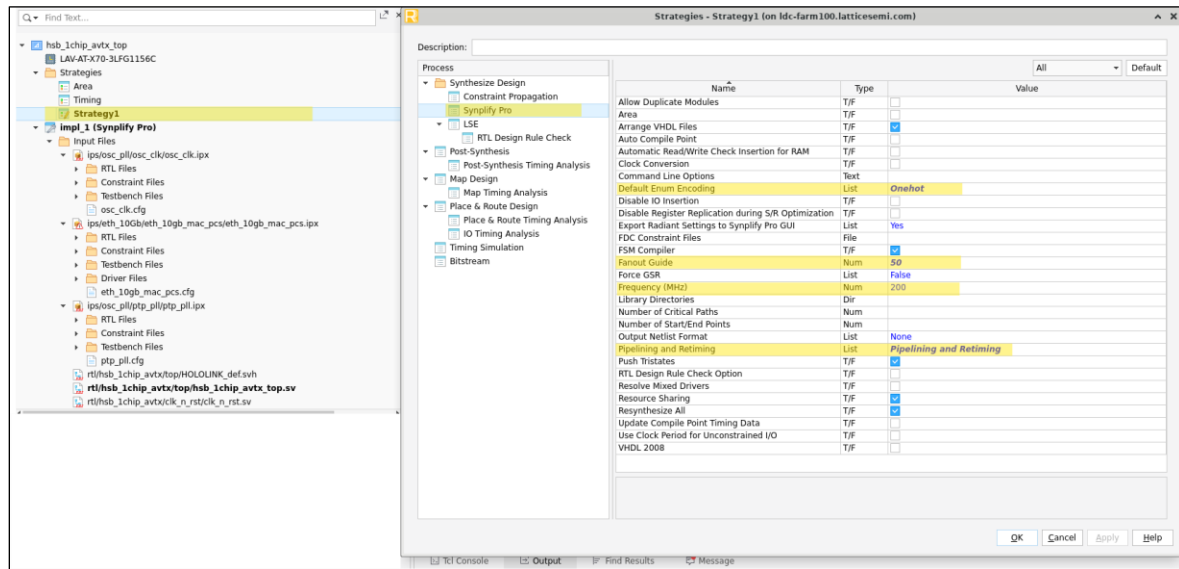

Figure 5.5. Synthesis Design's Strategy
3. Modify the Synplify Pro strategy details under **Synthesis Design > Synplify Pro**. Refer to Figure 5.5.